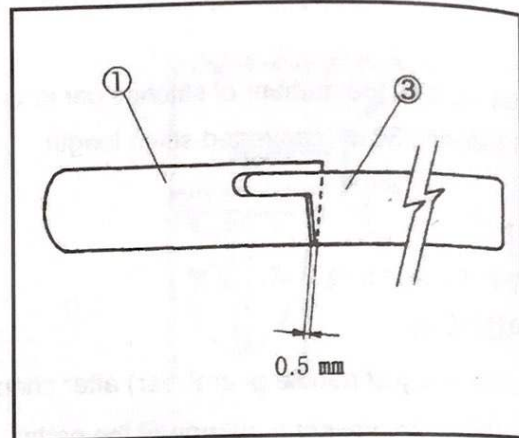
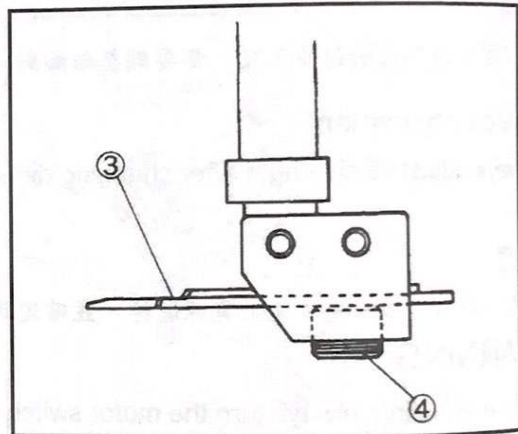

Fig.30
Fig.31
- (1) 底刀①的標準位置要留距離在底刀①尖端和鎖底刀座②之間 0-0.5mm。(Fig.30)
- (2) 當上刀③在最左邊時，上刀③和底刀①要有 0.5mm 的重疊。
- (3) 放鬆螺絲④和⑤去調整上刀和底刀。
(Fig.31, 32)
- (1) For the standard position of the lower knife ①, make the distance between the lower knife ① tip and the lower knife clamp ② to 0-0.5 mm. (Fig. 30)
- (2) For the standard position of the upper knife ③, engage between the upper knife ③ and lower knife ① to 0.5 mm when the upper knife ③ is at the extreme left.
- (3) Loosen the screws ④ and ⑤ to adjust the lower and upper knives respectively. ( Fig.31 , 32)